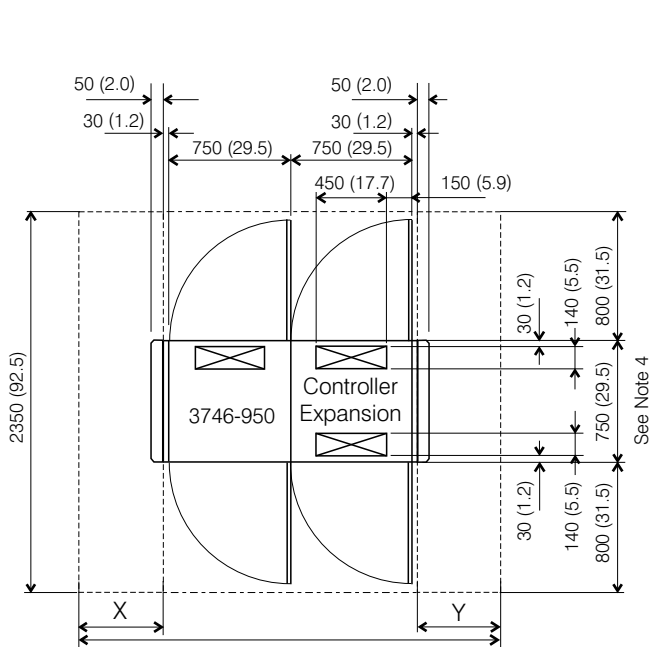
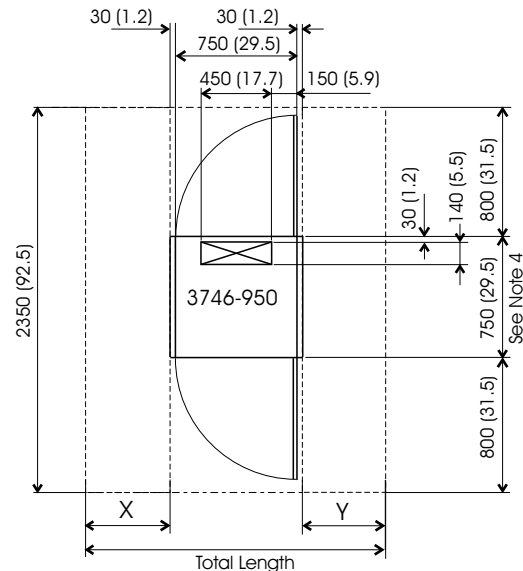

Figure 1. Plan View of a 3746-950 with Controller Expansion.
Figure 2. Plan View of a 3746-950 Alone
- Make sure that the re-installation areas, the floor cutout size and location areas are in accordance with Figure 1 or Figure 2. If not inform the customer.